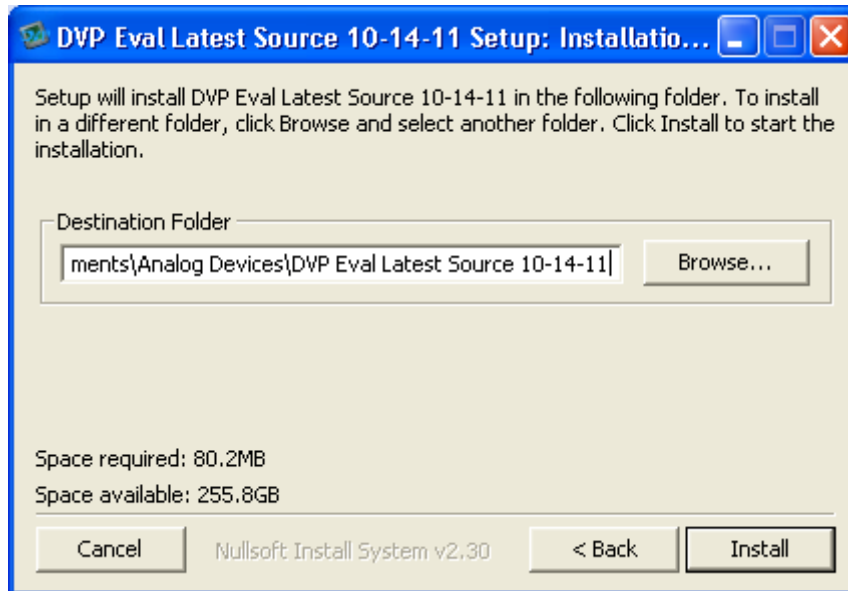

Figure 3. Installation Destination for DVP Eval Program
4. A new window appears (refer to Figure 3), prompting you to select the installation destination folder. Press the **Install** button.